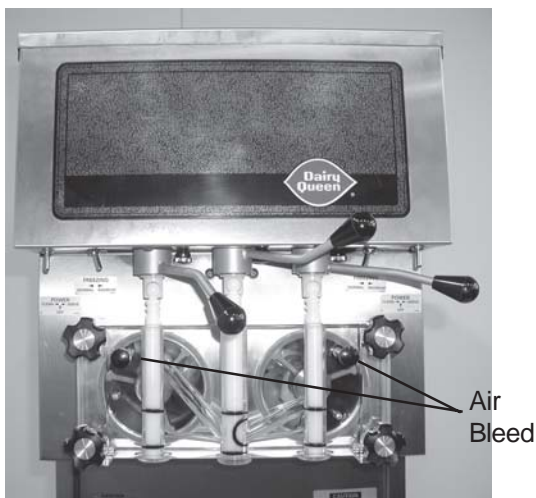

Figure 9. Air Bleed
- C. Place the mix pump switch in the ON position and open air bleed valve on the front door by pushing valve in and holding. (See Fig.9)